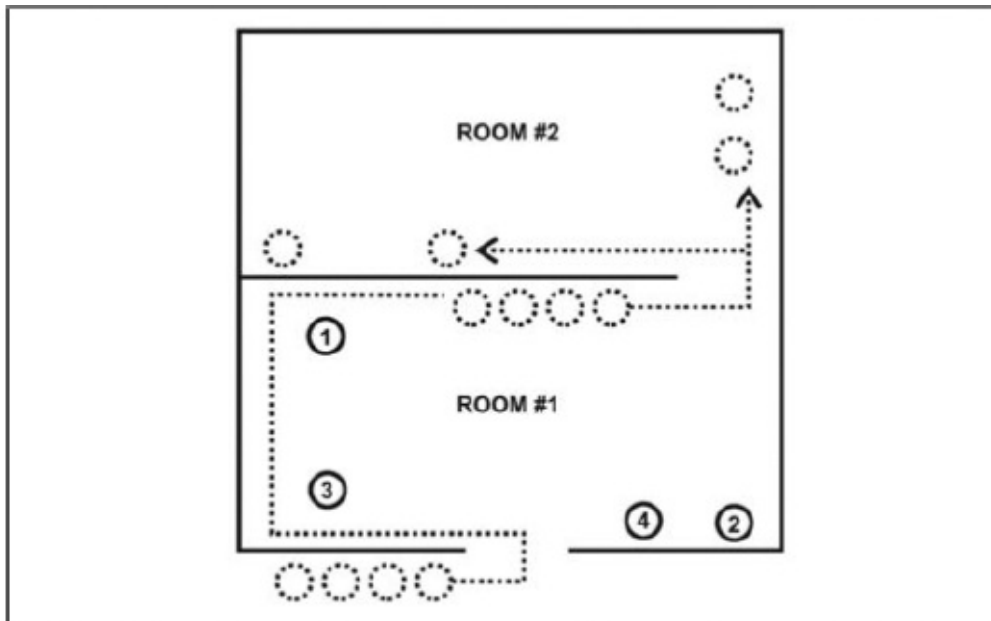

Figure 4-15. Multiple teams/multiple rooms
a. Multiple Team/Multiple Rooms. Figure 4-15 shows this.